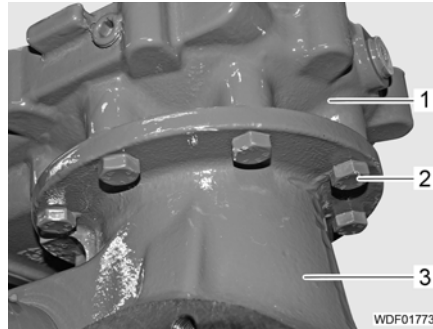

Fig. 409 Fastening of the case
- Unscrew 7 bolts (Fig. 409,2).
- Remove case (Fig. 409,1) from the axle housing (Fig. 409,3).
- Attach case (Fig. 409,1) to the axle housing (Fig. 409,3).
- Screw in and tighten 7 bolts (Fig. 409,2).